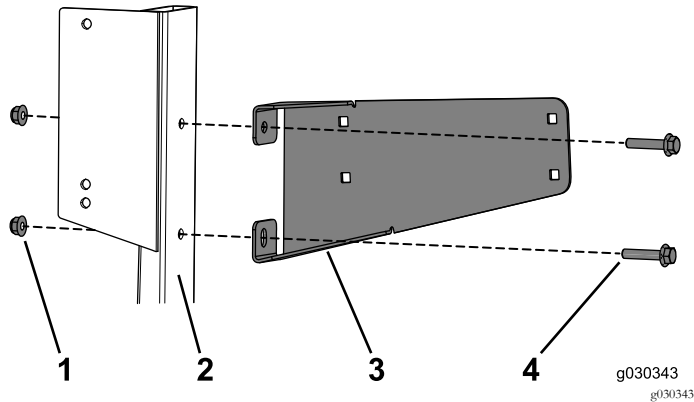

Figure 25
1. Secure the tank mount to the tube mount in the engine compartment using the 2 flange-head bolts (5/16 x 1-1/2 inches) and 2 flange nuts (Figure 25).